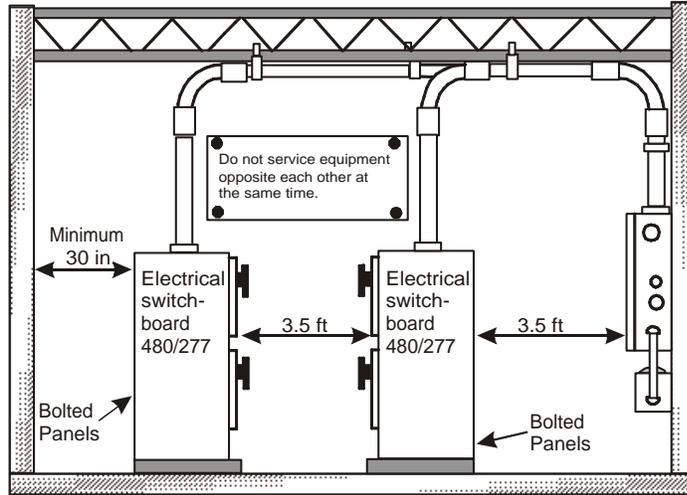

Figure 12-3.—Working space requirements for rear or side access.
- b. Provide a working space of at least 30 inches horizontally where rear or side access is required to work on de-energized parts of enclosed equipment (see figure 12-3).